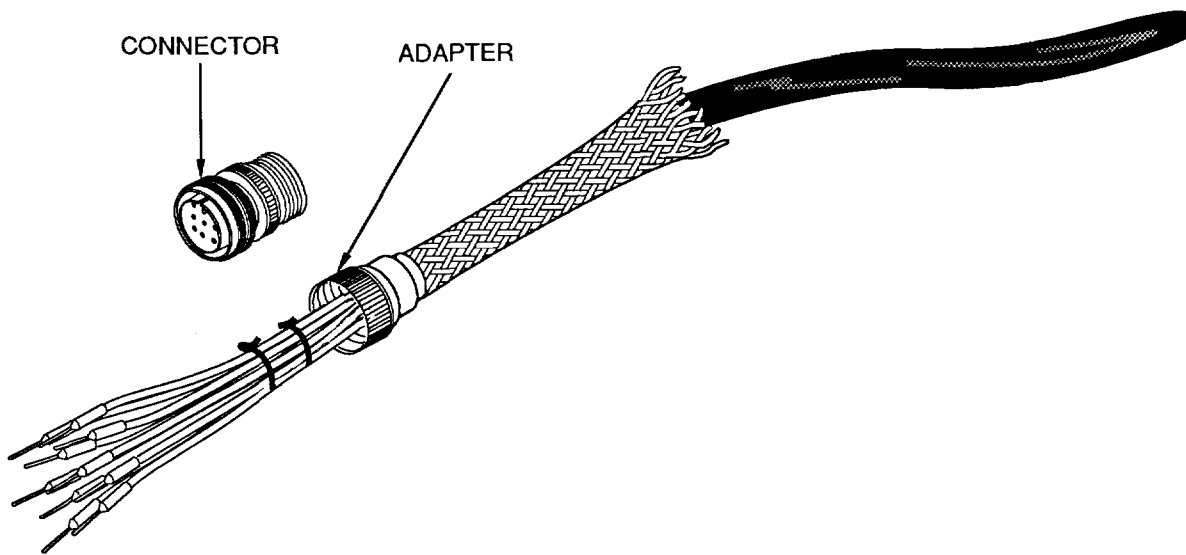

Figure 16. Adapter Removal and Installation
c. Slide new adapter over cable (Figure 16)